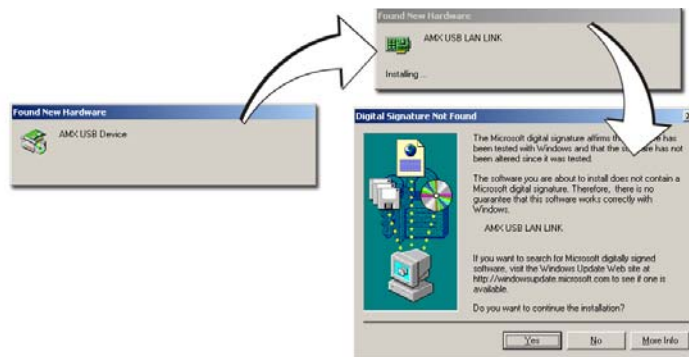

FIG. 72 USB driver installation popup window
8. **ONLY AFTER** the unit displays the first panel page, **THEN** insert the mini-USB connector into the Program Port on the panel. It may take a minute for the panel to detect the new connection and send a signal to the PC (*indicated by a green System Connection icon*). If this is your first time installing the USB driver, a USB driver installation popup window (FIG. 72) then appears on the screen.